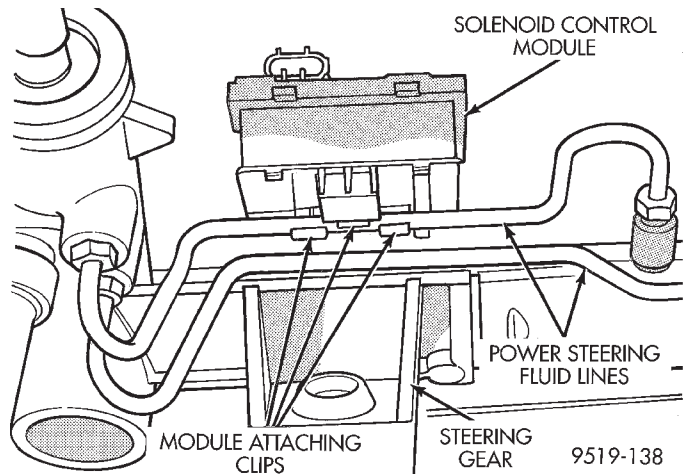

Fig. 3 Solenoid Control Module Mounting To Fluid Lines
(2) Un-clip locking tab (Fig. 3) on bottom side of solenoid control module, holding control module to steering gear fluid lines. Then rotate control module upward and remove the upper 2 attaching clips from the steering gear fluid lines (Fig. 3).
(1) Hook upper tabs on solenoid control module onto upper steering gear fluid line (Fig. 3). Then rotate module downward until locking tab on bottom of module (Fig. 3) is locked on lower power steering gear fluid line.